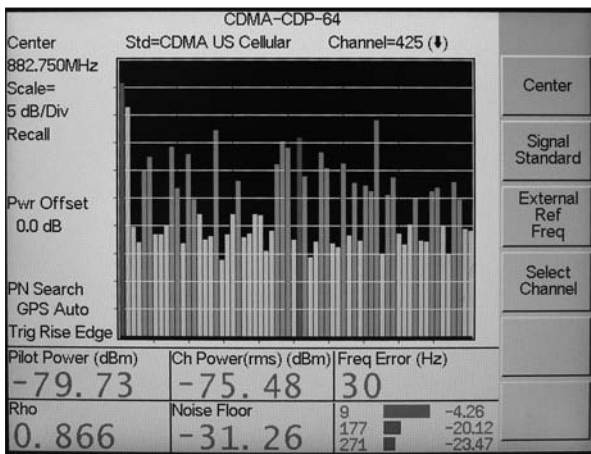
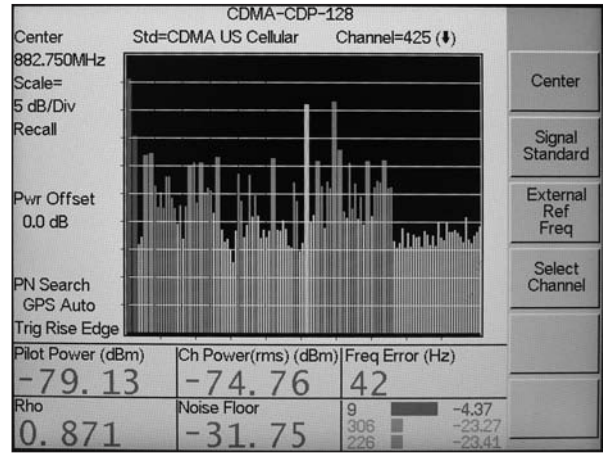

Figure 3a. This Code Domain Power display depicts a cdmaOne signal, 64 codes normal sequence.
Figure 3b. This Code Domain Power display depicts a CDMA2000 1xRTT signal, 128 codes bit reversed sequence.
A typical CDMA2000 1xRTT BTS transmission in the frequency domain is identical to that of cdmaOne with a channel bandwidth of 1.2288 MHz. In the code domain, power is displayed in the Walsh code channels as shown in Figure 3a and Figure 3b. Signals transmitted on the forward traffic channel are specified by the radio configuration (RC). CDMA2000 specifies nine RCs in the forward link; five for 1xRTT spreading rates and four for 3xRTT. MT8212B displays CDMA2000 1xRTT Walsh codes in bit reversed order. Here Walsh codes are not arranged by sequential order; they are displayed based on their relation to other codes that could be used to group them for higher data rates.